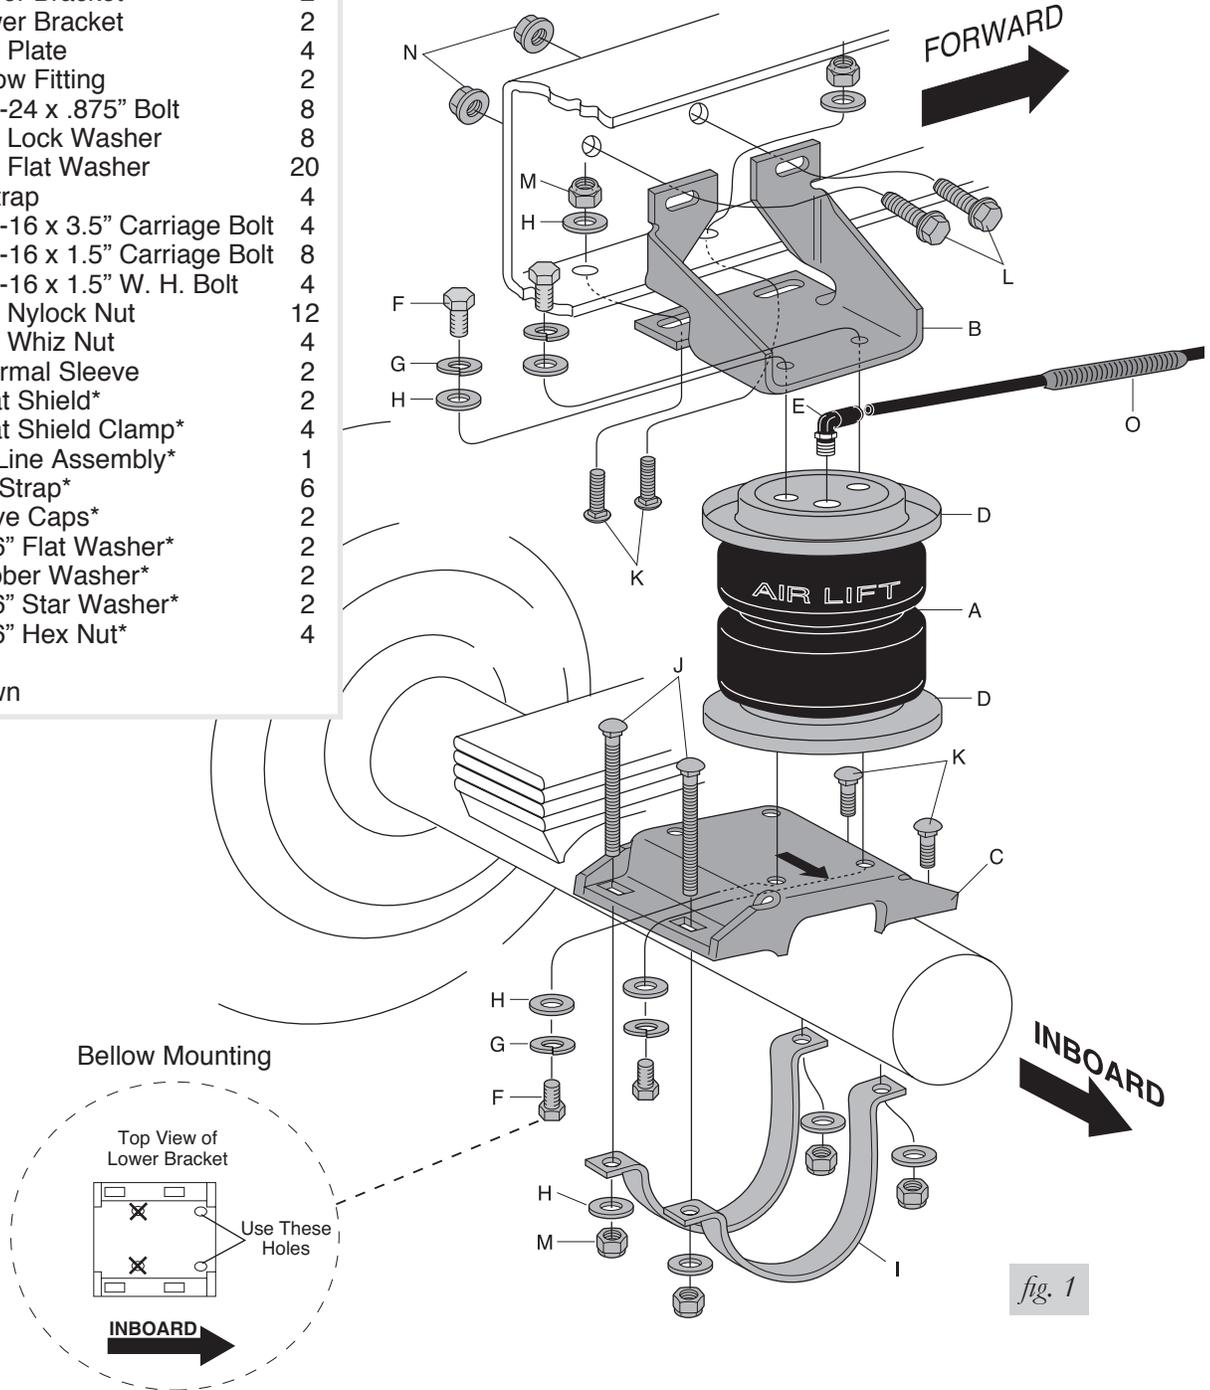

fig. 1
2. Install the roll plates (D) to the top and bottom of the bellow (A).
3. In the forward holes on the lower bracket, insert two $3/8" \times 1.5"$ carriage bolts (K). In the rearward holes on the lower bracket, insert two $3/8" \times 3.5"$ carriage bolts (J). NOTE: Be sure the rounded head of the carriage bolts faces the bellow (Fig. 1).
4. Attach the lower bracket (C) to the bottom of bellows using two $3/8" \times .875"$ bolts (F), two $3/8"$ lock washers (G), and two $3/8"$ flat washers (H). See Figures 1 & 4.
6. Attach the upper bracket (B) to the top of the bellows with two $3/8" \times .875"$ bolts (F), two $3/8"$ lock washers (G), and two $3/8"$ flat washers (H). See Figure 1.
- Secure the lower bracket with the two J-straps (I) and corresponding nuts, bolts, and washers (Figs. 1 & 4).